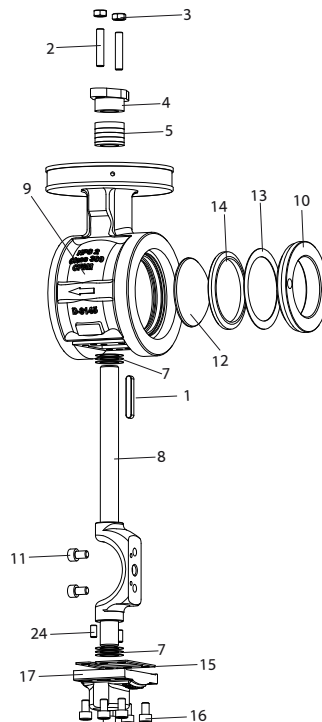

Fig.6-5
1. Desapertar os parafusos (→ Fig.6-5/20) e tirar a placa de cobertura (→ Fig.6-5/10).
2. Tirar a anilha de mola (→ Fig.6-5/13), anel de suporte (→ Fig.6-5/14 a) e assento (→ Fig.6-5/14).